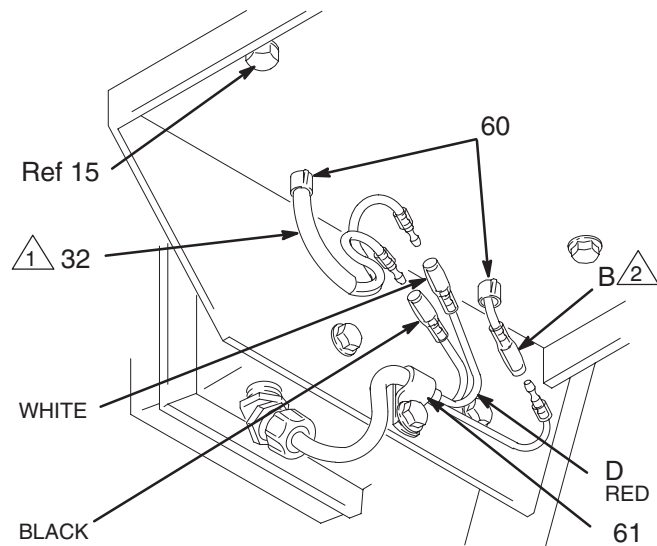

Fig. 15
2. See Fig. 15 and 16. Disconnect the red wire (D) from the engine lead (B). Disconnect the black and white wires from the field. Loosen the clamp (61). Pull the wires carefully through the grommets (60) before removing the engine. Remove the two locknuts (84) and then pull the screws (14) out of the base of the engine.